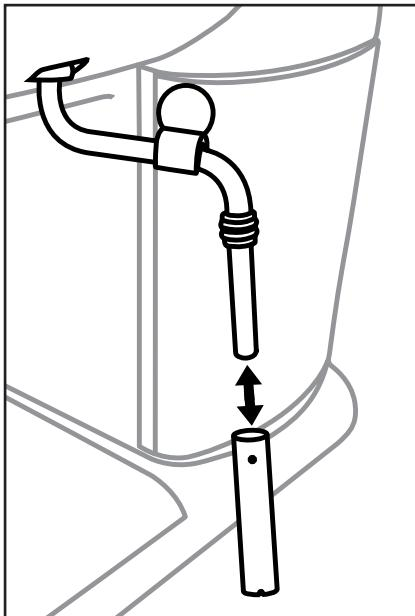

Figure 1
- 1) Place an empty container under the milk frother ⑩.
- 2) Immediately after use, turn the steam control ⑦ to the “ + ” position and allow the steam to escape for a few seconds.
- 3) Turn the steam control ⑦ off (as far as it will go in the direction “ - ”), switch the appliance off and remove the plug from the mains power socket.
- 5) Pull the casing of the milk frother ⑩ off (Figure 1) and clean it thoroughly in warm water.
- 7) Push the casing back onto the nozzle (Figure 1).